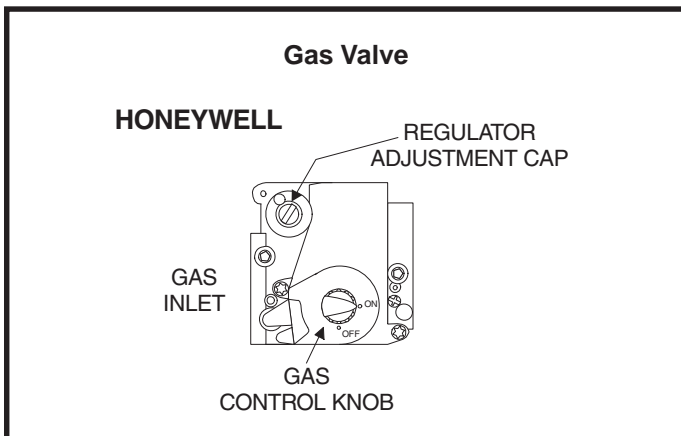

Figure 9
2. Depress and turn the gas valve knob to the "OFF" position (see Figure 9).
3. Turn the gas valve knob to the "ON" position (see Figure 9).